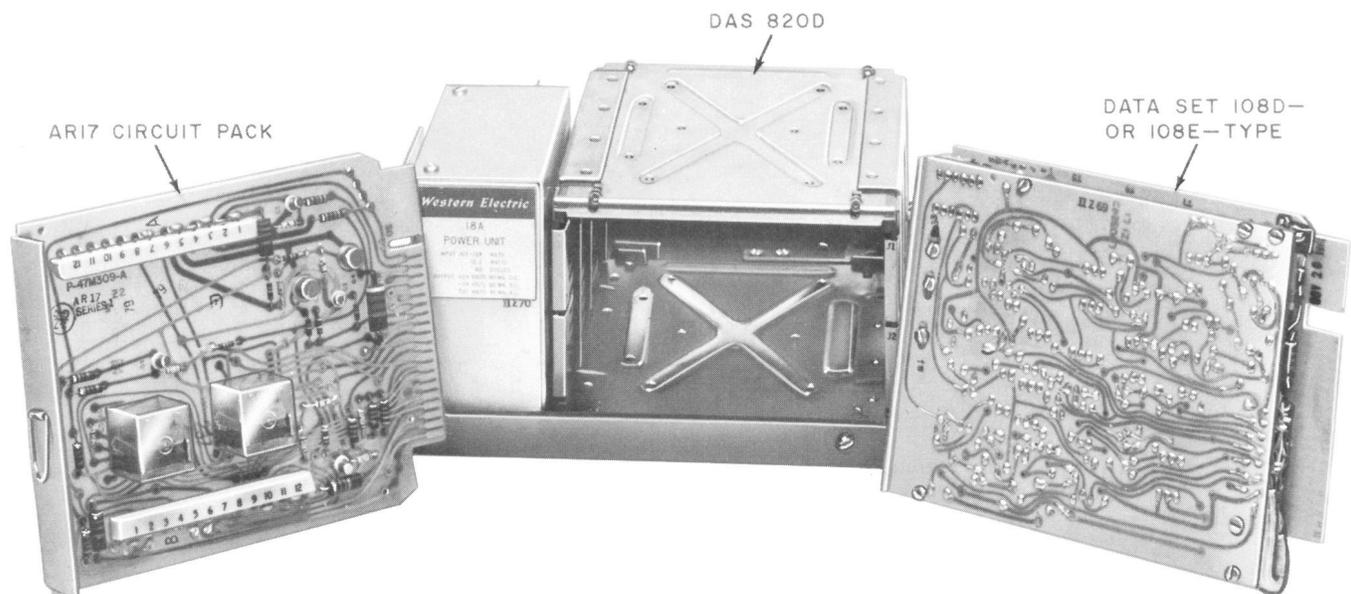

Fig. 1—Data Set 108D- or E-Type and AR17 Circuit Pack Used in Data Auxiliary Set 820D
1.01 This section provides physical and operational descriptions of data sets 108D- and 108E-types when used in a data auxiliary set (DAS) 820D-L1 or 820D-L1A equipped with an AR17 circuit pack (Fig. 1). In this section, data sets 108D- and 108E-types shall be referred to as data sets 108D and E.
2.06 The AR17 circuit pack (refer to Fig. 1) is a single plug-in printed circuit card that measures approximately 5-1/2 inches high, 1-1/2 inches wide, and 7-1/10 inches deep. The dc voltages necessary for the operation of AR17 circuit pack (and data sets 108D and E) are supplied through DAS 820D by the 18A power unit.